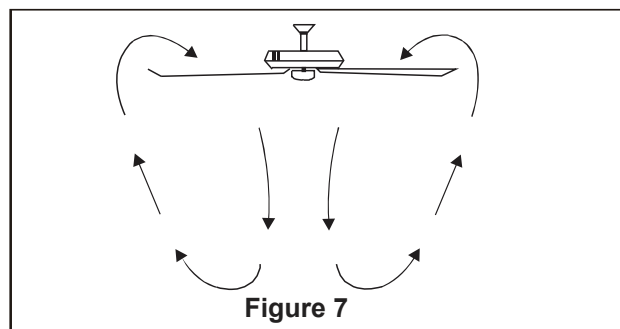

Figure 7
- ☐ 7. Cut off excess lead wire approximately 6 to 9 inches above top of the downrod. Strip insulation off 1/2 inch from the end of each lead wire. (Figure 7)
- ### 7. Warm weather - (Forward) A downward air flow creates a cooling effect as shown in . (Figure 7) This allows you to set your air conditioner on a higher setting without affecting your comfort.